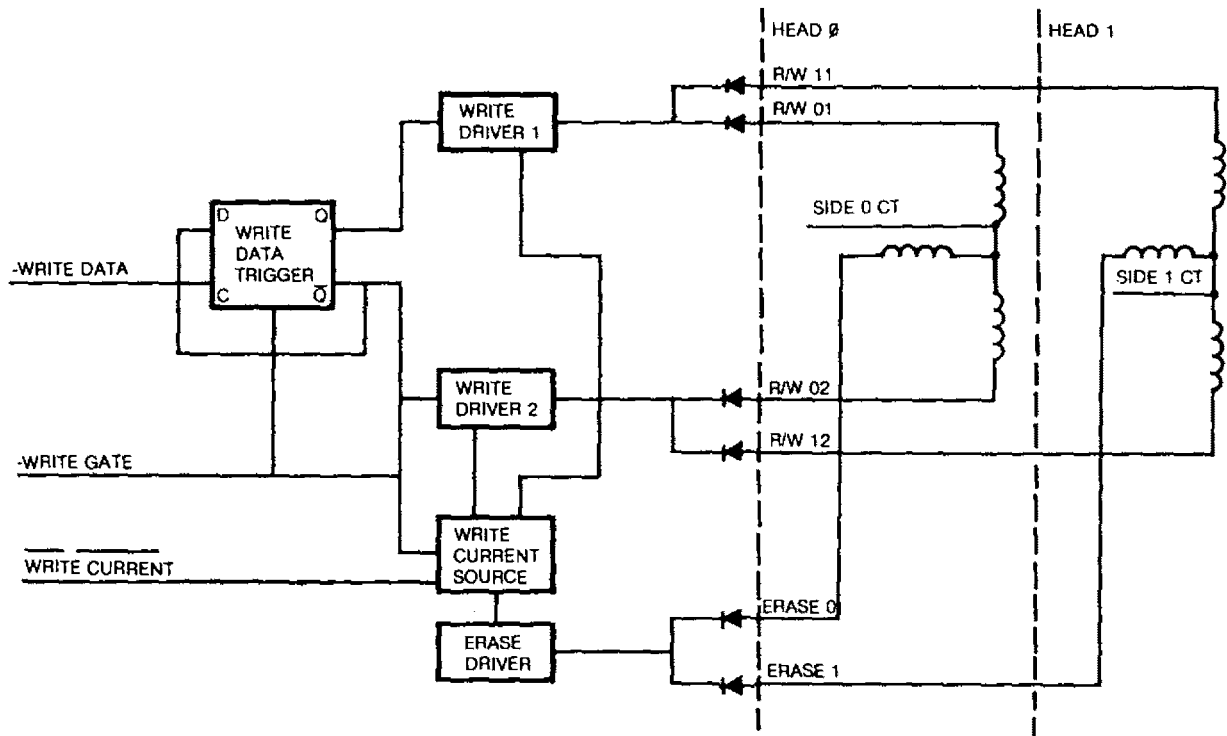

FIGURE 32. WRITE CIRCUIT FUNCTIONAL DIAGRAM
1.6.0 WRITE CIRCUIT OPERATION (FIGURE 32)